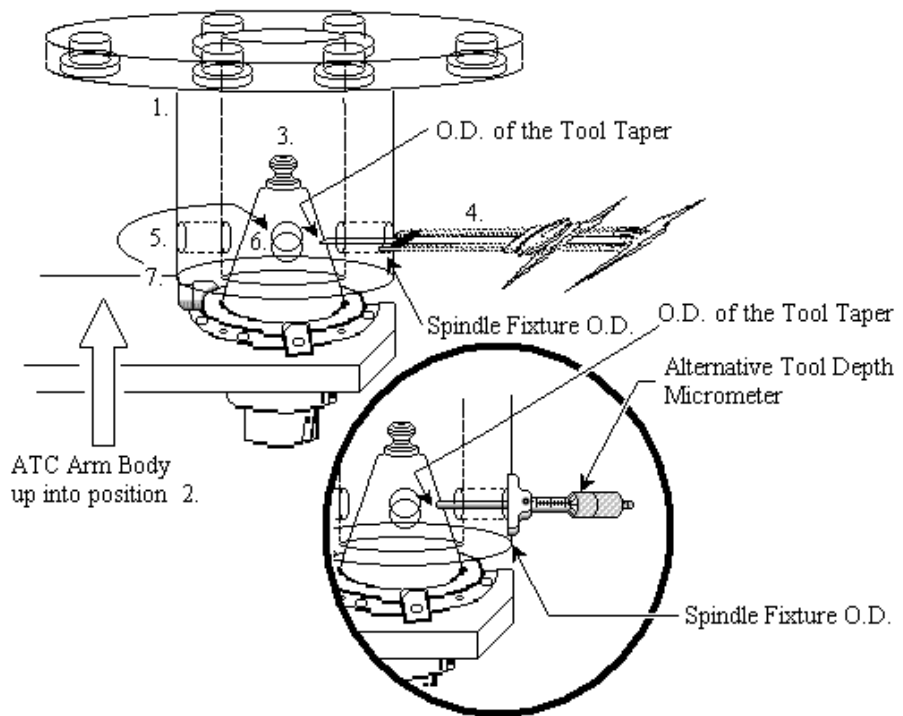

Figure 5-18 Manual Rotation of Tool Arm
- 3) Remove the oil inlet plug and fill the ATC oil reservoir with lubricant (MOBIL DTE OIL HEAVY MEDIUM) to approximately 1-1/2 gallons or 5 liters. Observe the sight glass to verify that the oil reservoir does not over fill (see Figure 5-18, positions 1 and 2). The alternative way to fill the oil reservoir is by utilizing the plugged air vent on top and to the rear of the main ATC casting. This does not require the removal of the main cover.
- 22) If required, install the shims in groups of twos, one along the top the row of the ATC mount bolts and one underneath the bottom row of mount bolts. See Figure 5-18, positions 4,5, and 6.
- 28) Install four #5 tapered dowel-pins into the ATC arm mount at the column. See Figure 5-18, position 4.
- 30) While rotating the ATC arm, pull the motor brake switch up. This is the electromagnetic brake that will be holding the motor back from turning smoothly. The switch is located on top and to the front of the ATC motor (the switch must be held up). See Figure 5-18, position 3. When the motor has reached the lowest position, press the plunger and remove the tool holder.